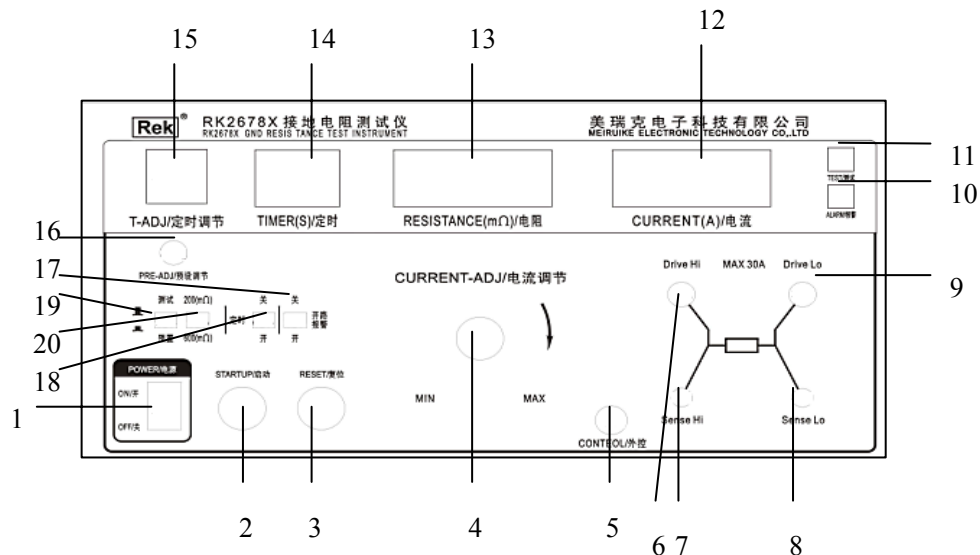

Fig. 1: Schematic chart of RK2678X panel
1. Description of panel (see Fig. 1)